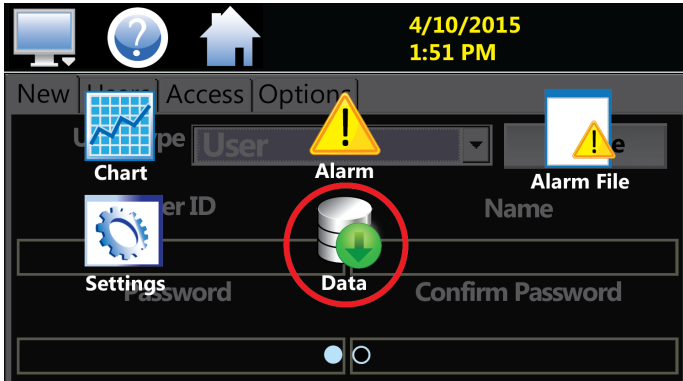

Fig. 55: Data Icon
1. Select HOME - MONITOR (swipe screen left to right) - DATA icons (Fig. 55).